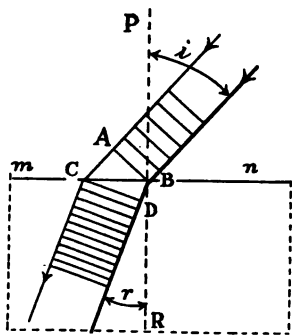

FIG. 409. Refraction of oblique waves.
**438. Why light is refracted.** When a beam of light passes from air into water, there is a change in its velocity. To see that this must cause a bending of the beam, let the parallel lines in figure 409 represent wave fronts advancing in the direction of the arrows. As soon as the edge *B* of a wave front enters the water, it begins to advance slowly, while the part *A*, which is still in the air, advances with the same speed as before. Consequently the direction of the wave front is changed into the position *CD*, and the beam is bent into a direction nearer the perpendicular *PR*.
**439. Speed of light and index of refraction.** From figure 409 it will be seen that the amount which the beam of light is refracted when passing from air into water depends upon the relation between the distances *AC* and *BD*; that is, upon